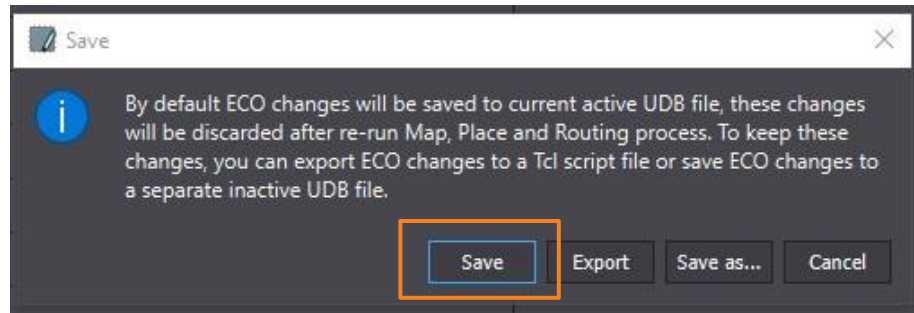
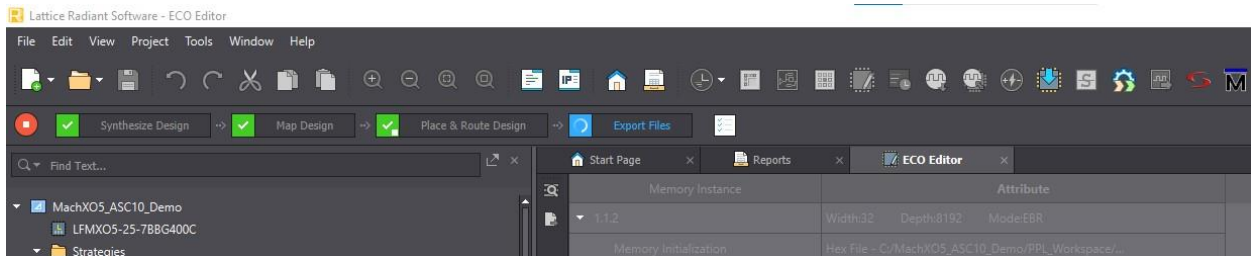

Figure 3.60. Radiant ECO Editor – Save
Figure 3.61. Radiant ECO Editor – Exporting Files
- After clicking the **OK** button, double-click on the **Export Files** and the **Save** dialog box will open as shown in Figure 3.60. Click the **Save** button and Radiant will include the latest firmware into the programming file without having to repeat the synthesis, map, and P&R processes as shown in Figure 3.61.